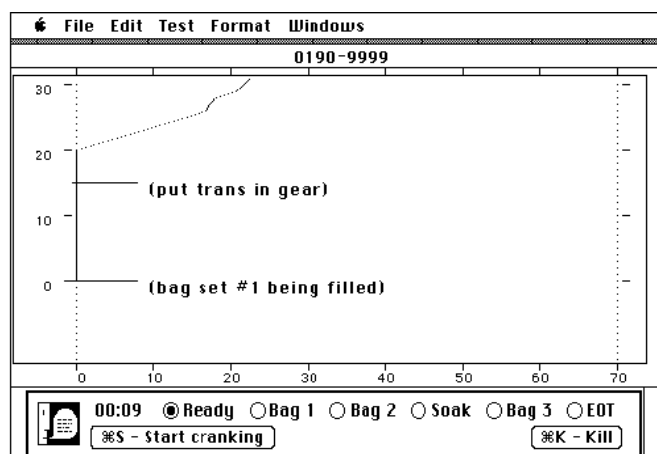

Figure 14
- 407 Press <Command S> to start the VDA trace scrolling. The crank time will be displayed on the left side of the dialog box. See Figure 14.